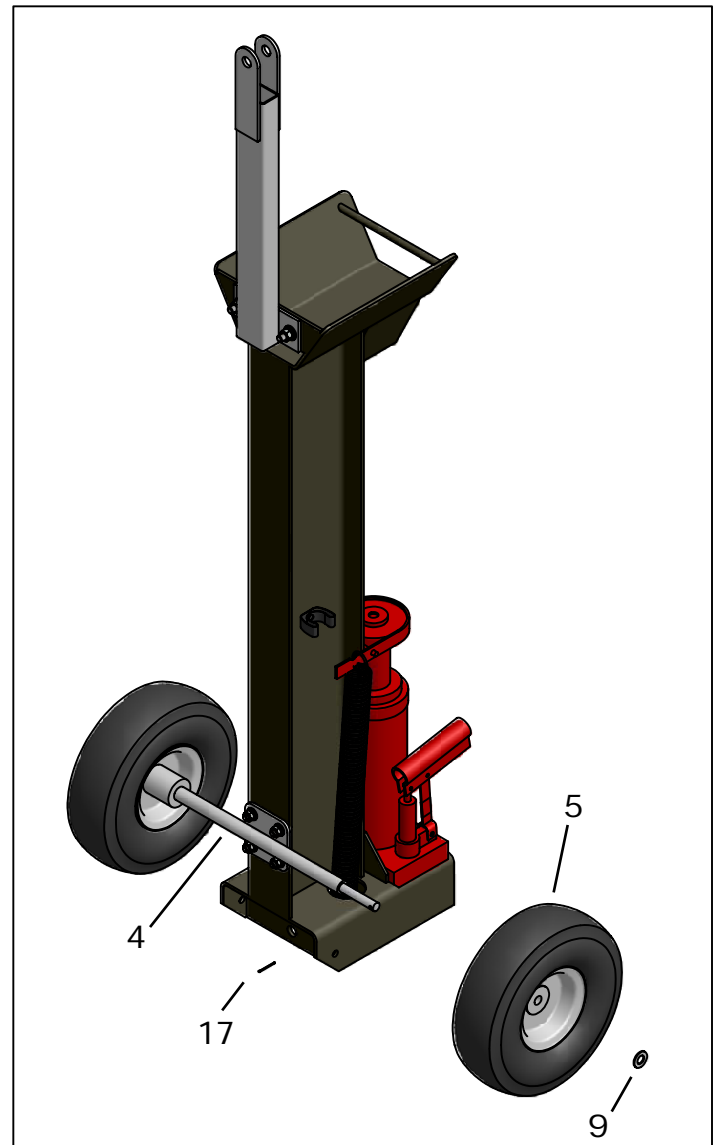

Figure 2
4. Slide the Wheel(5) on to the Axle Assy(4) with the long hub facing inwards. Slide a 1/2 Flat Washer(9) onto the outside of the axle. Secure with Cotter Pin(17), bend the ends with a pair of pliers. (Repeat for other wheel) (Figure 2)